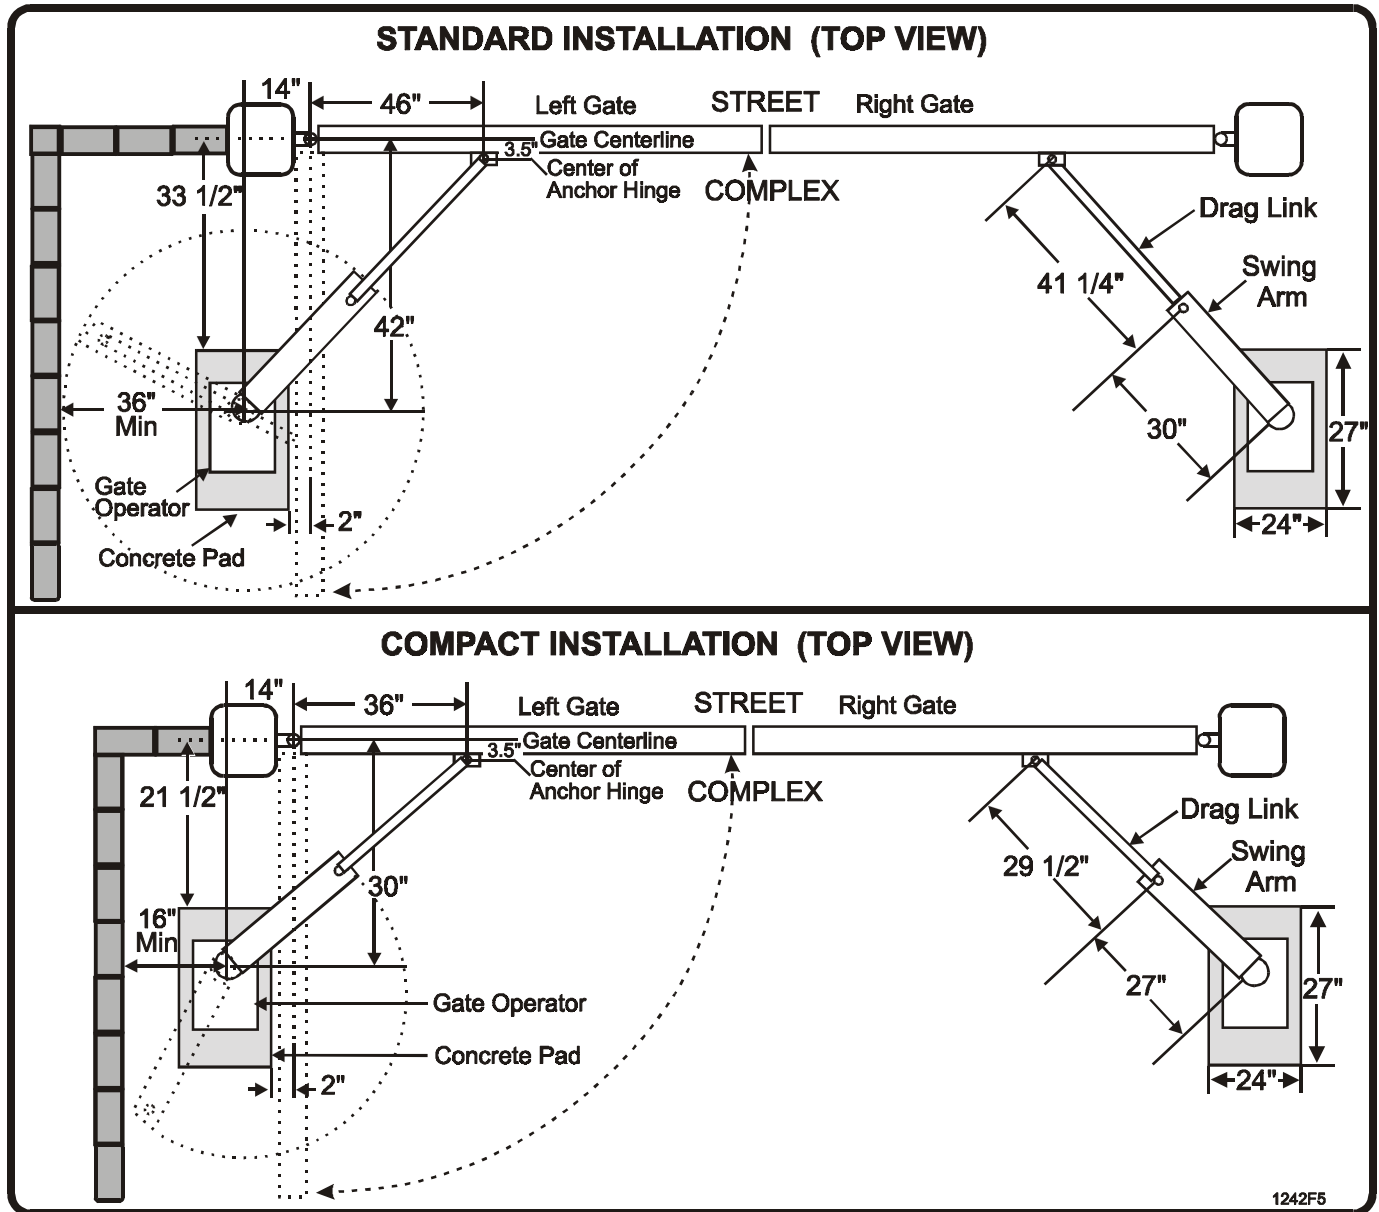

Figure 1. Gate Operator Layout Options.
- Figure 1 shows a typical Bi-Parting gate in standard and compact installations.